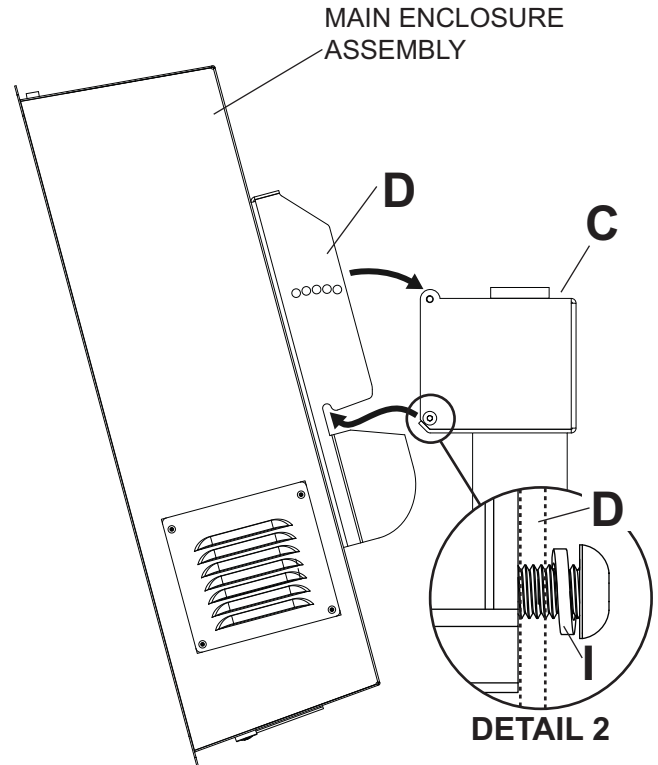

fig 5.1
5 Hook tilt plate (D) onto bottom socket screws threaded into adapter box (C) and select desired tilt angle (0° to 15°) as shown in figure 5.1. **NOTE:** Be sure split lock washer (I) is on outside of tilt plate as shown in detail 2.